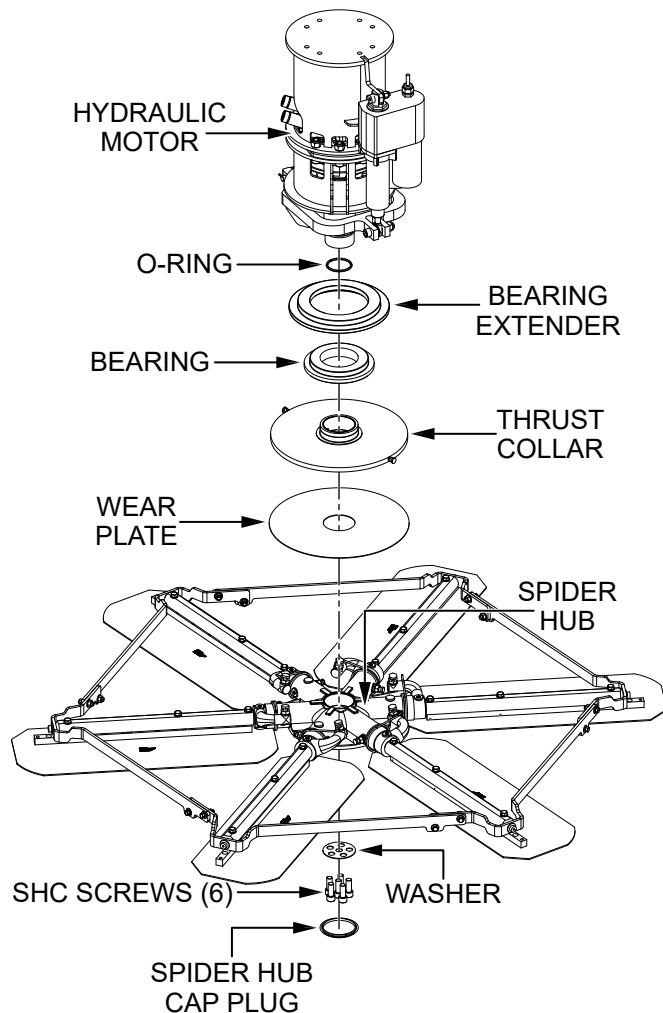

Figure 43. Rotor Assembly Components
5. Remove the **spider hub cap plug** (Figure 43) and set it aside.
6. Remove and set aside the **six socket-head screws** securing the **spider hub** to the **hydraulic motor shaft** (Figure 43).